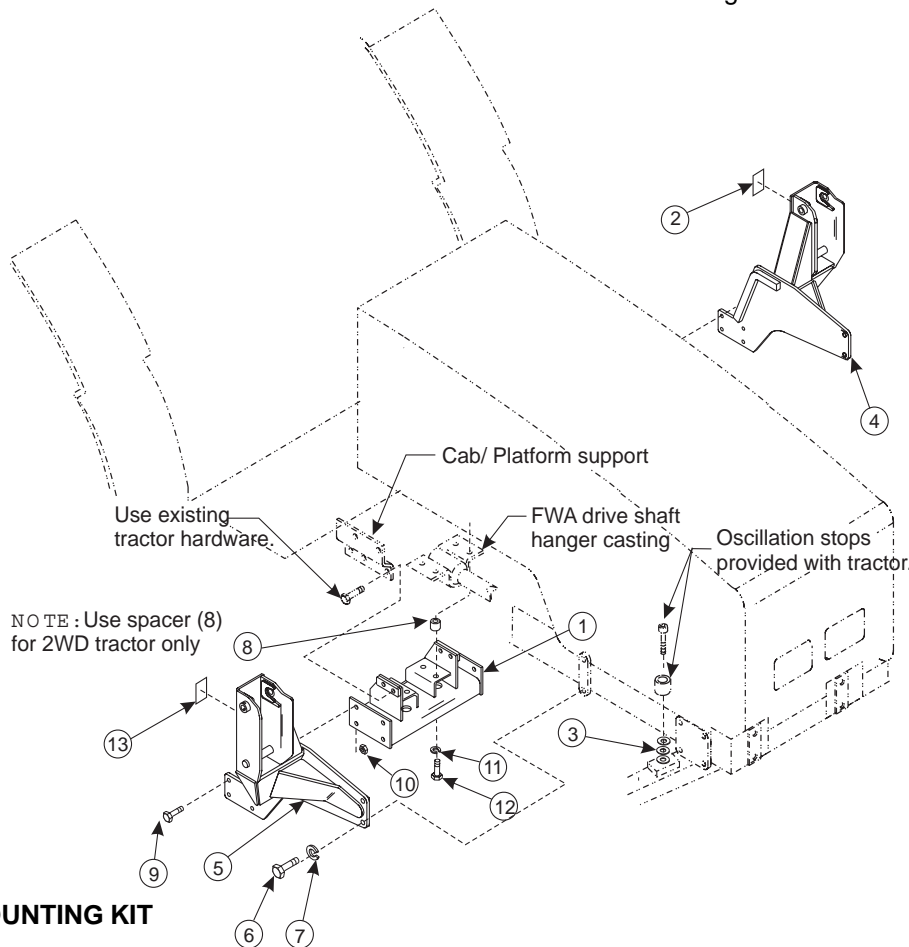

Figure 1
5. FWA Tractors- Remove factory installed front axle oscillation stops from each side of tractor and place three washers (15) between front axle casting and each factory oscillation stop as shown in figure 1. Reattach oscillation stops with existing tractor hardware. This will limit tractor front axle oscillation, thus providing adequate clearance between front tire and loader.
INSTALLING LEFT & RIGHT MIDMOUNTING BRACKETS (FIGURE 1)
NOTE: Examine pin bushings and remove any paint with emery cloth before mounting loader (see figures 1, 3 & 6).